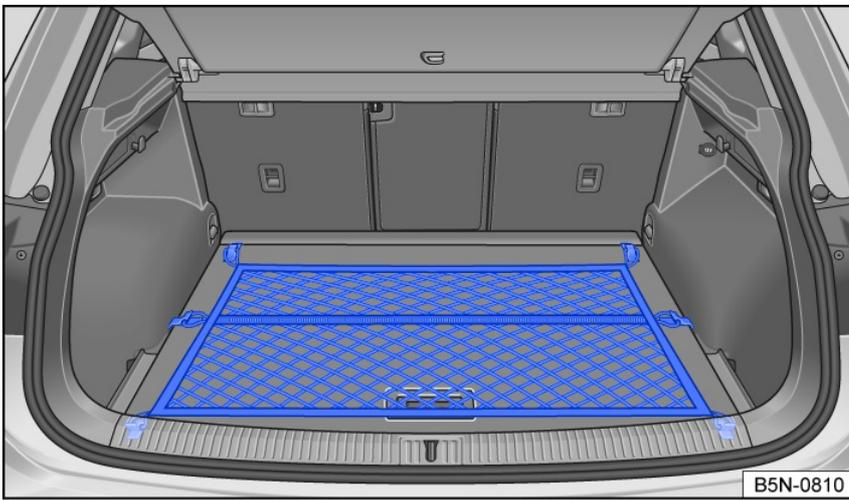

Fig. 158 In the luggage compartment: flat luggage net.
- Attach the hooks of the luggage net to the front tie-downs fig. 158, → . The zipper on the luggage net must face upward.
- Attach the hooks on the other end of the luggage net to the tie-downs under the load sill fig. 158.